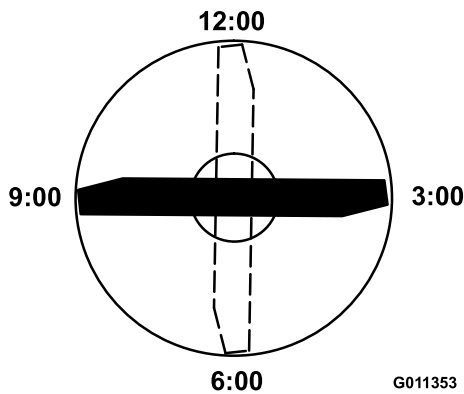

Figure 69
- Position the cutting edge of the marked end of the blade at the 12 o'clock position (straight ahead in the direction of mowing) and measure the height from the table to the cutting edge of the blade (Figure 69).
4. Rotate the marked end of the blade to the 3 o'clock and 9 o'clock positions and measure the heights (Figure 69).